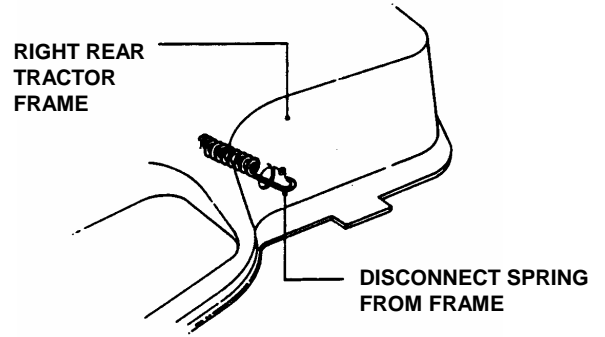

FIGURE 4.29
8. Remove deck drive belt from engine pulley bottom groove. See Figure 4.29.
13. Disconnect traction belt idler pulley spring from tractor frame. See Figure 4.29.